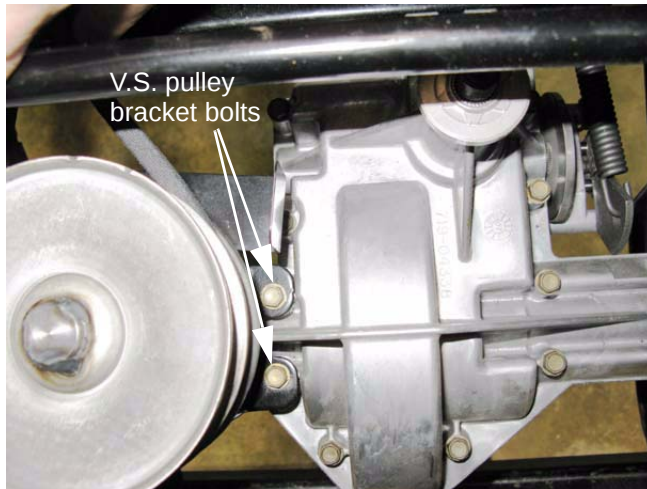

Figure 6.76
4. Unbolt the variable speed pulley bracket from the transmission using a 3/8" wrench. See Figure 6.76.